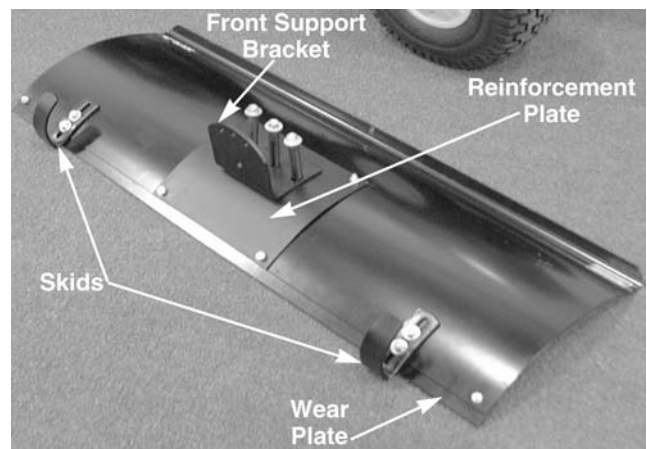

Figure 12-71.
4. Insert carriage bolts through wear plate, blade, and skid. Secure with flat washer and hex lock nuts. See Figure 12-71.
5. Insert hex bolts through blade, reinforcement plate, and front support bracket. Tighten carriage bolts and hex bolts securing wear plate and reinforcement plate using a 1/2" socket. See Figure 12-71.
6. Place compression springs over hex bolts and secure with flat washers and hex lock nuts. See Figure 12-71.